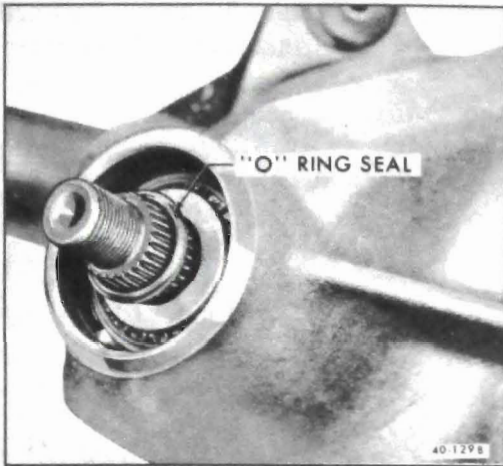

Figure 40-107 - Installing Pinion 'O' Ring
3. Install "O" ring on pinion in spline undercut. See Figure 40-107.